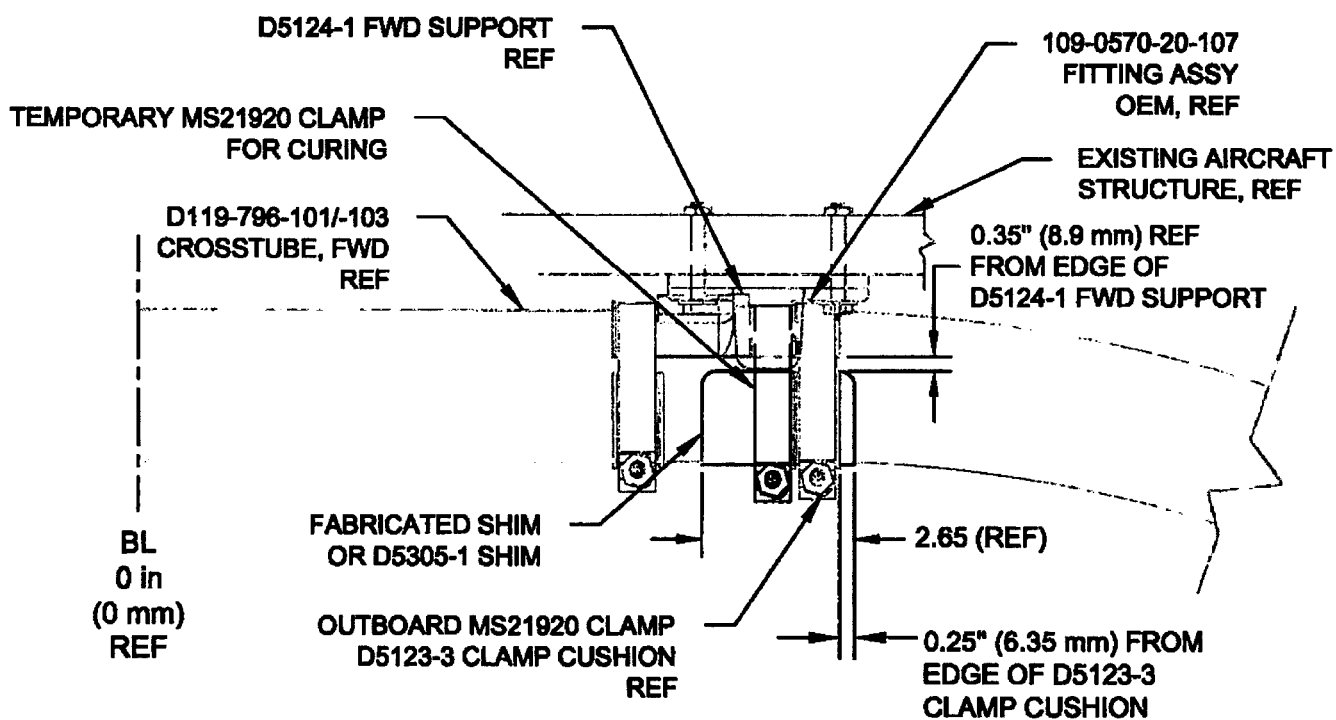

Figure 2: Fwd Crosstube Shim Installation
- 2.3 Form the shims to fit the underside of the crosstube in the location shown in Figure 2. Note that the long axis of the shim is along the circumferential direction of the crosstube.
- 2.4 Abrade mating surfaces of the shims and crosstube with Scotch Brite and remove residue. Apply a minimum 0.020"-0.040" (0.51mm - 1.02mm) thk layer of Proseal 890 B1/2 or B2 on the concave surface of the shims and install in the location shown in Figure 2.
- 2.5 Apply clamping pressure using the outboard MS21920 Clamps with Cushions as well as an additional MS21920 Clamps as shown in Figure 2. Tighten the MS21920 Clamps sufficiently to allow even pressure on the circumference of the shims (do not torque the MS21920 Clamps). Allow Proseal 890 to cure for minimum of 36 hours with clamping pressure.